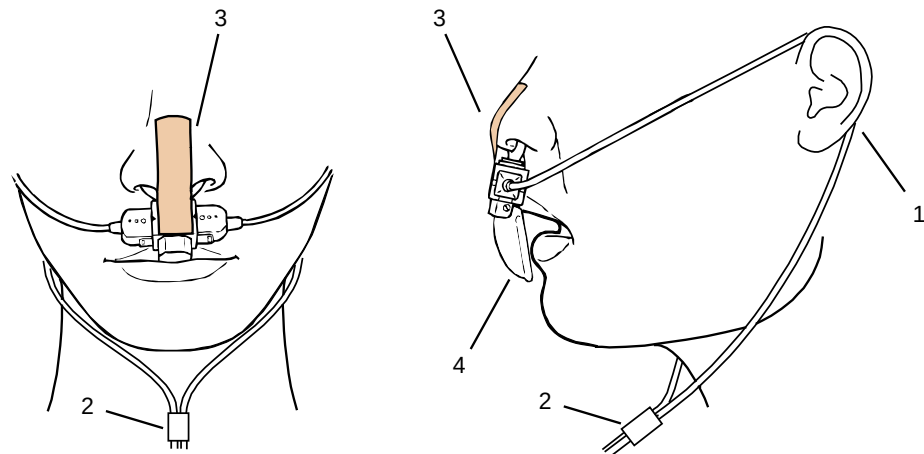

Fig. 6-24 Fitting the disposable CO₂ nasal(/oral) adapter on the patient
- Position the sensor cable behind the ears (Fig. 6-24, item 1) and slide the fastening ring (Fig. 6-24, item 2) loosely towards the chin.
- Attach the disposable adapter to the nose with the adhesive tape provided for this purpose (Fig. 6-24, item 3).
- The oral breath collector (Fig. 6-24, item 4) must not be more than 10 mm away from the lower lip.